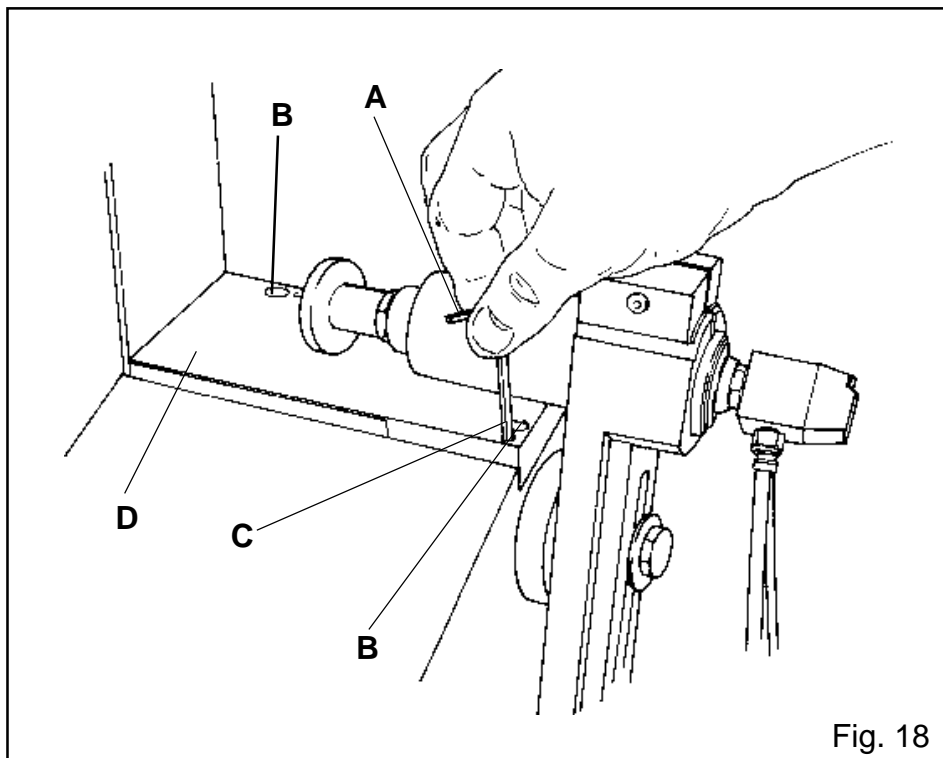

Fig. 18
- Loosen nr. 3 screw B (Fig.18) by means of correspondent spanner
- Then lower or lift working table D (Fig.18) operate by means of spanner A (Fig.18) by turning screw C (Fig.18) to anticlockwise direction to lower the working table or to clockwise direction to lift working table.